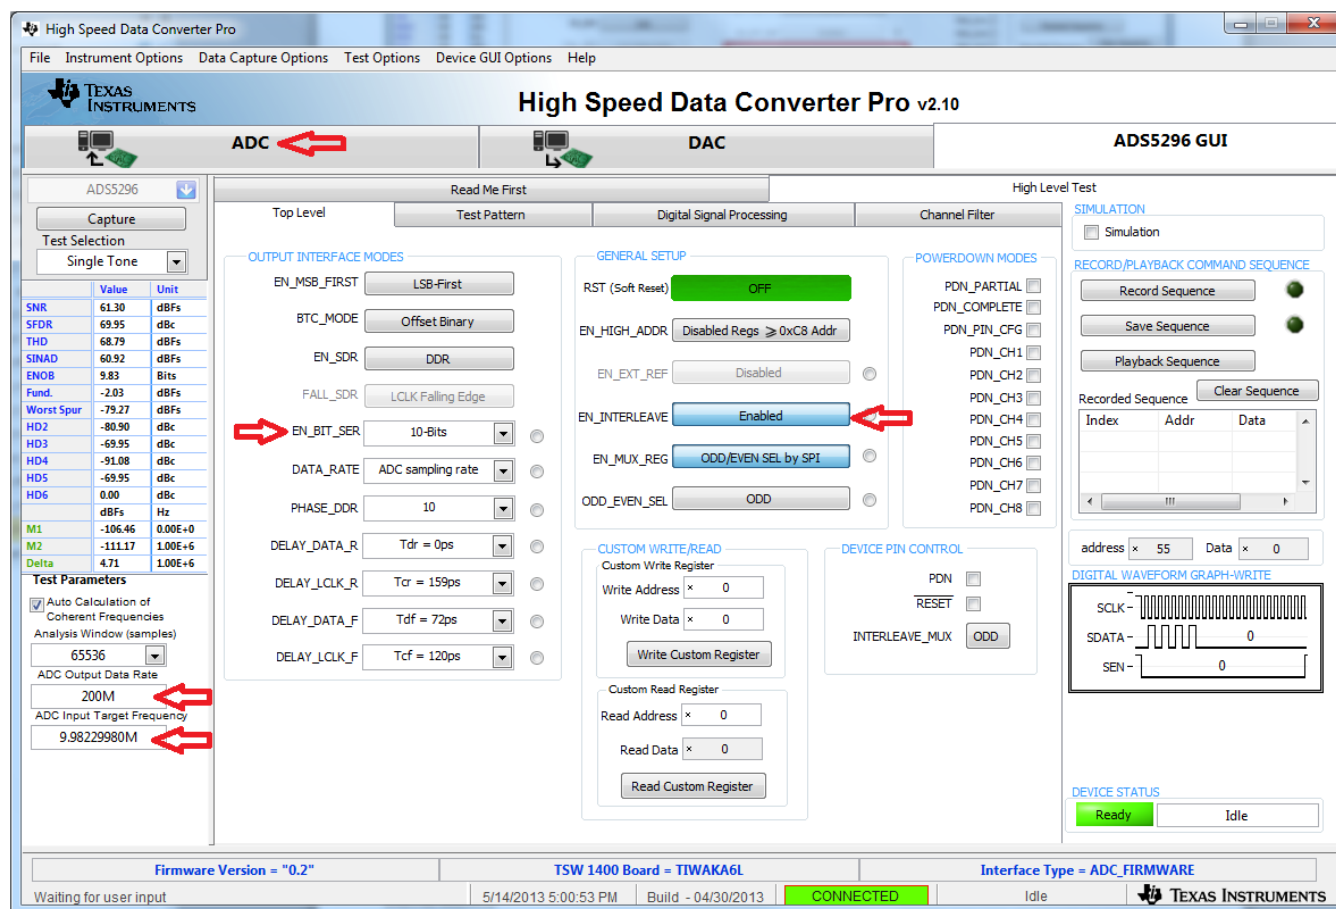

Figure 48. Quad-Interleaving Mode GUI Setup
2. From the ADS5296 GUI, *Top Level* tab, make the following changes as shown in Figure 48. With this configuration the ADS5296 will be sampling channel 1 since the **ODD\_EVEN\_SEL** is set to **ODD** in the software GUI.